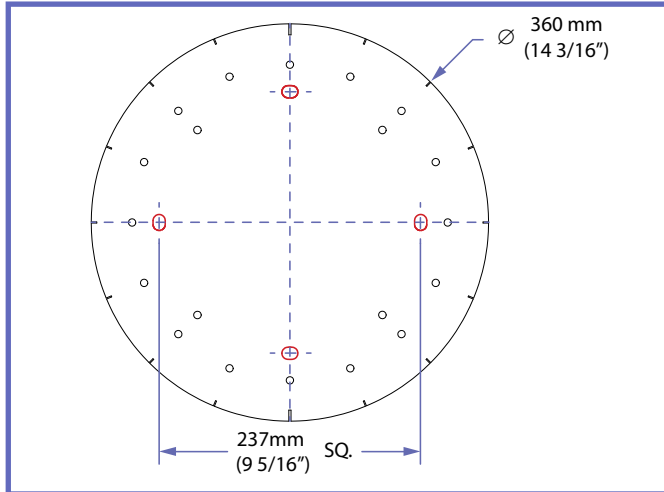

Fig.9
- 2) Use a plumb laser to pinpoint the turntable mounting location on the ceiling. (Refer to the track installation manual for further information). There are four mounting points on the turntable. Refer to Fig.9 to locate drilling location.
- Use the four holes, as shown on Fig.9.